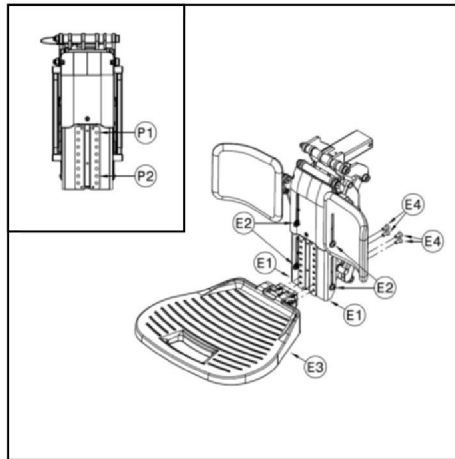

Fig 11
- (1) Use Allen key to loosen four screws <E2>. (Fig 11)
- (2) Pull out leg length <E1>. (Fig 11)
- (3) Setup the Footplate <E3> to desired position. (Fig 11)
- (4) Use Allen key to tighten four screws <E2>. (Fig 11)
- (5) Reverse above processes to assemble the parts back.